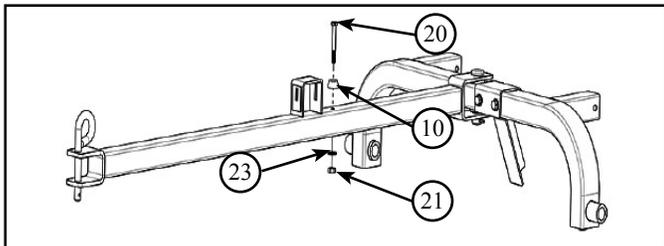

Figure 3.7 - Tow Bar/Bed Bumper
4. Insert bolt (20) through bumper (10) and tow bar. Refer to Figure 3.7
5. Install washer (23) and tighten lock nut (21), do NOT over-tighten. Refer to Figure 3.7